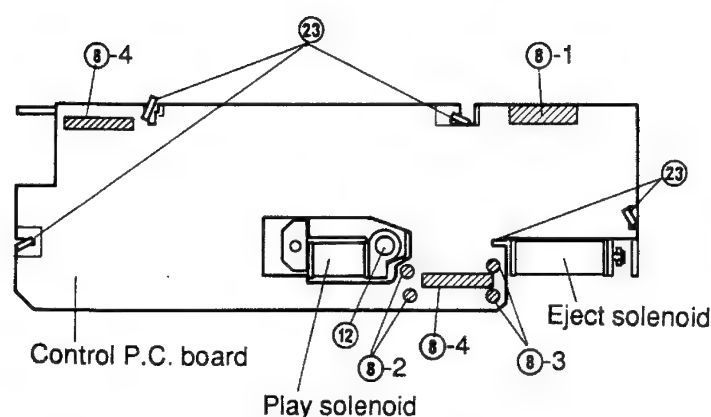

Figure 11
- (2) Remove solder ⑥-1, and remove the parallel wire (5P) from the control PC board as shown in Figure 11.
- (1) Remove the two solders ⑧-2 as shown in Figure 11.
- (2) Remove one screw ⑫ and remove the solenoid as shown in Figure 11.
- (3) Mount the new solenoid following the removal steps in the reverse order.
- (1) Remove two solders ⑧-3. Take care not to loose the tube that protects the wire. (Refer to Figure 11.)
- (1) Remove seven solders ㉑ and remove the three parallel wires and the wires of the eject solenoid and of the play solenoid as shown in Figure 11.
- (2) Remove the claws ㉒ and remove the PC board as shown in Figure 11.
- (3) After replacing the old PC board with a new one, mount it following the removal steps in the reverse order.